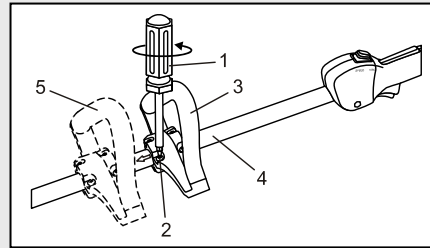

Fig. 3
1. Using a Torx® screwdriver (1), turn the four handle clamp screws (2) counter clockwise until the handle (3) will rotate on the trimmer outer shaft (4) (Fig. 3).
2. Slide the handle up or down (5) and/or rotate it to a comfortable position.